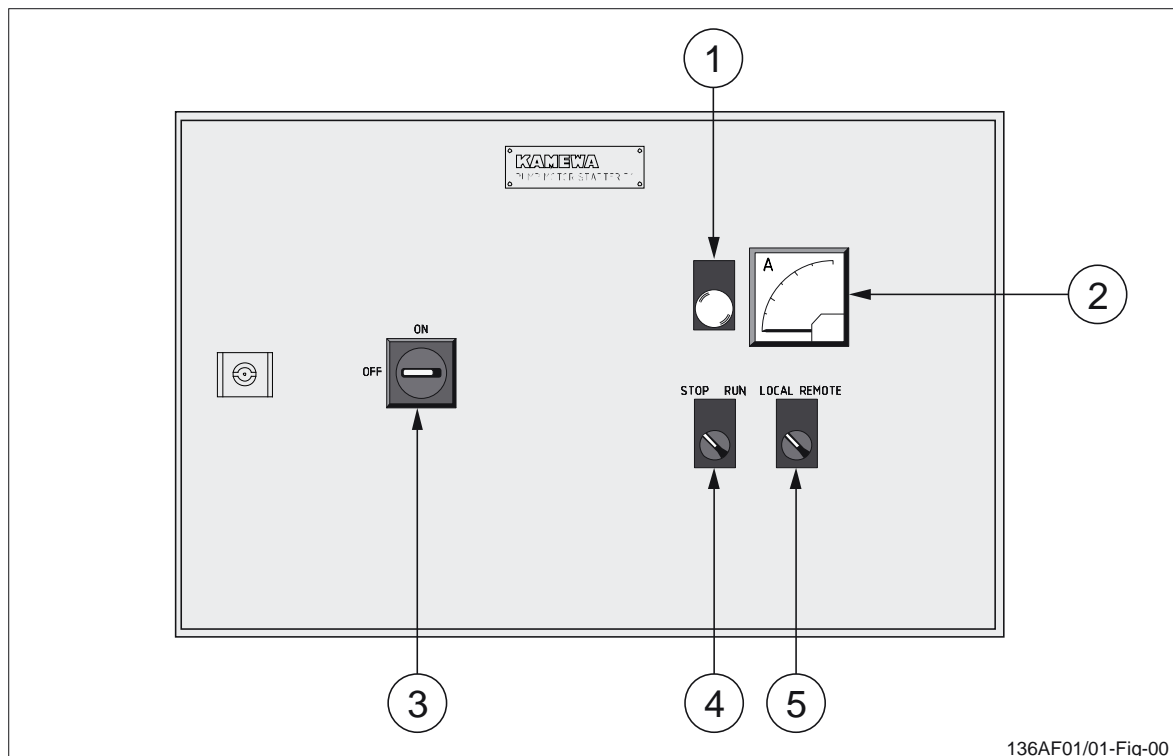

Figure 1 Front view of pump motor starter cabinet P1
1. Make sure that the local/remote switch S2 (see position 5, in figure 1) on pump motor starter cabinet, P1, is in REMOTE position.